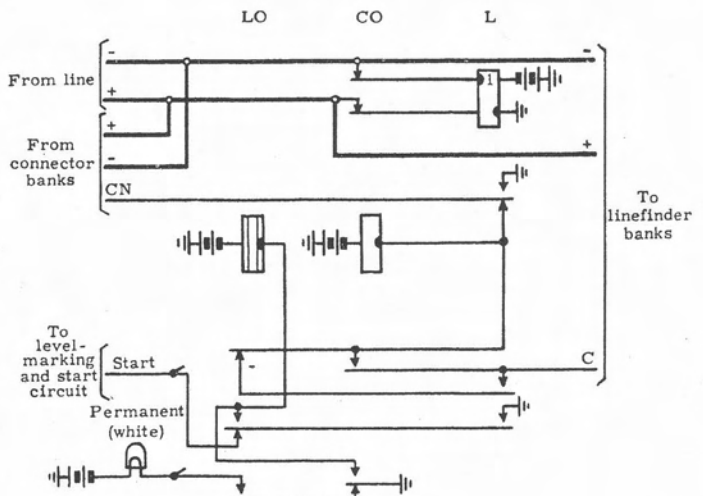
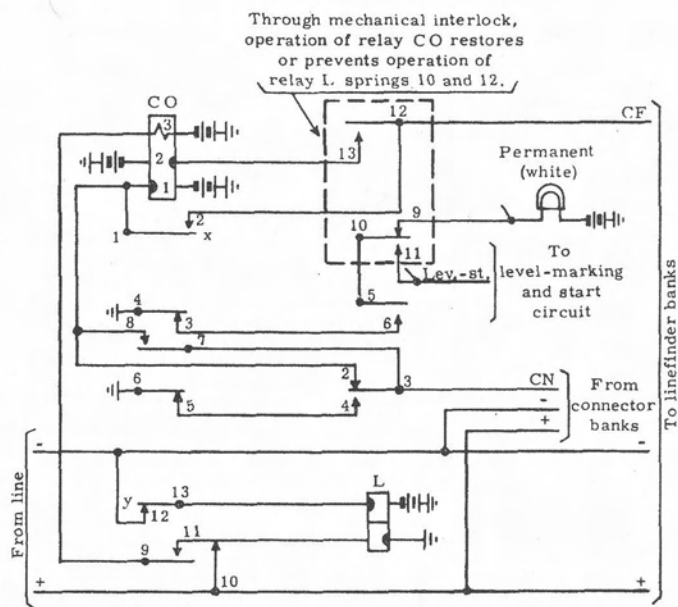

Figure 28. Three-relay lock-out line circuit.
Figure 31. Two-relay mechanical-lockout line circuit. Normal.
**6.4 Permanent timing and line lock-out.** A "permanent" line is one whose line equipment is operated accidentally (due to a handset improperly placed in its cradle, leakage across the loop, grounded negative line, etc.). The operated line equipment causes a linefinder to connect to the line. As this ties up a linefinder and a first selector needlessly, a line circuit with a "lock-out" feature is sometimes used. If the line does not dial within two to four minutes, the first selector releases the linefinder, and the line equipment "locks out" so as not to seize another finder-selector link. Two common "lock-out" circuits are the three-relay "lock-out" circuit (figure 28) and the two-relay mechanical "lock-out" circuit (figure 31).
6.41 The three-relay lock-out line circuit (figure 28) operates as follows on an outgoing call. When the subscriber lifts his handset, current through his telephone operates the line relay. The line relay grounds connector control lead CN to busy the line to other calls, connects the cut-off relay to the linefinder control lead to mark the calling line's contacts on the linefinder banks, and grounds the level-marking and start lead to start the linefinder. The linefinder, connecting to the line, grounds lead C, operating cut-off relay CO. Relay CO locks, removes the line relay from across the line, and operates lock-out relay LO. Relay LO, being slow to release, remains operated while the line relay operates again from current through